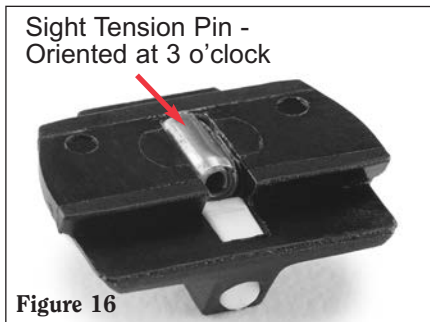

Figure 16
**NOTE:** There is a sight tension pin in the cavity under the front sight. (See Figure 16.) Be careful not to lose the tension pin when the sight is separated from the slide.
1. The sight tension pin should be oriented in the cavity on the bottom of the sight with the seam of the pin at the 9 or 3 o'clock position (see Figure 16). If the pin falls out of the cavity when the sight is held upright, it can be held in place with a dab of grease. Orient the front sight so the sighting surface is facing rearward.